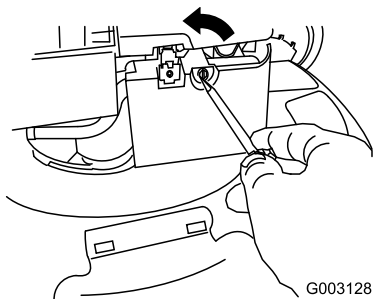

Figure 33
- Use a screw driver to open the air filter cover (Figure 33).